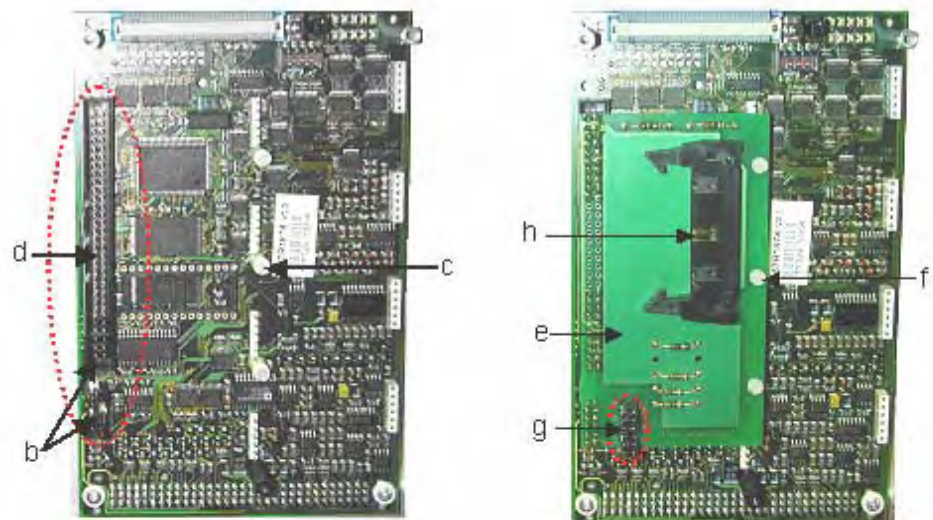

Fig. 10-12:
Connect the RS422-module connection cable (5) to the adapter board (2)(h). See Fig. 10-12.